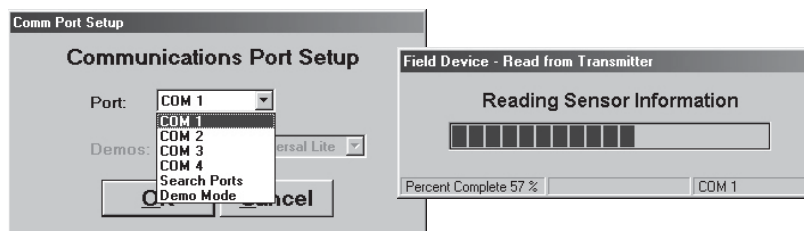

Figure 3-2
- E. Select communication port [Com 1, Com 2, etc.] and then click "OK." See **Figure 3-2**.